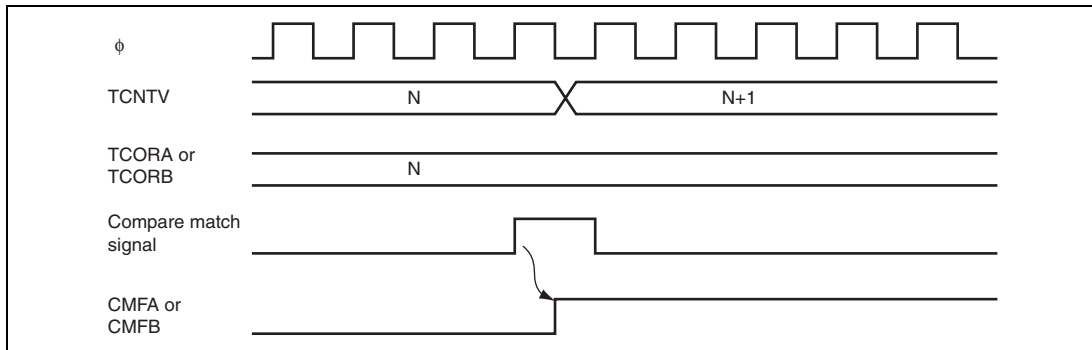

Figure 12.5 CMFA and CMFB Set Timing
3. TCNTV is constantly compared with TCORA and TCORB. Compare match flag A or B (CMFA or CMFB) is set to 1 when TCNTV matches TCORA or TCORB, respectively. The compare-match signal is generated in the last state in which the values match. Figure 12.5 shows the timing. An interrupt request is generated for the CPU when CMIEA or CMIEB in TCRV0 is 1.